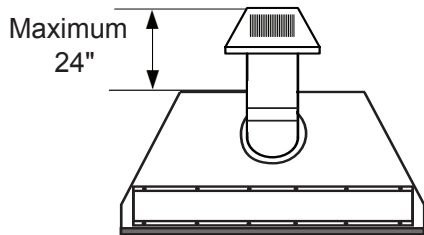
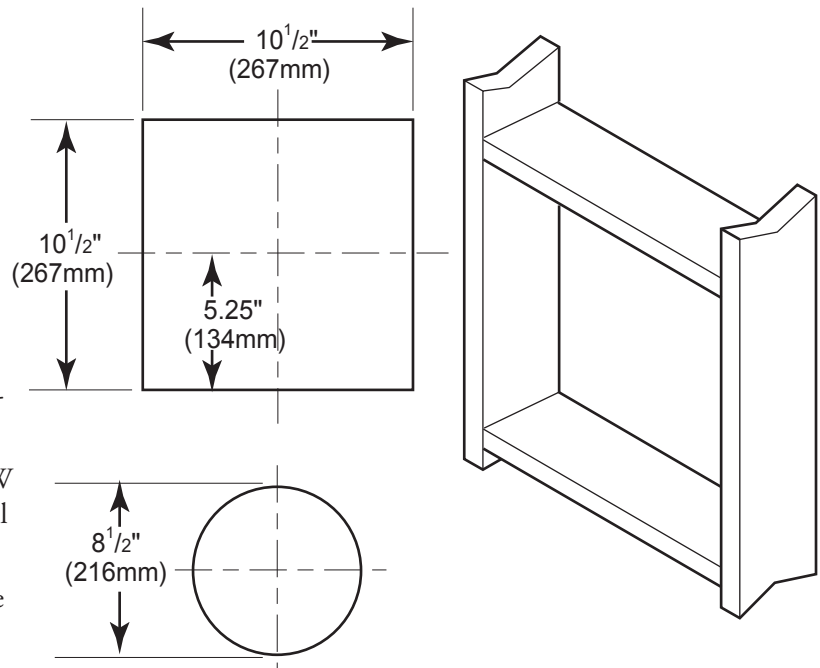

Figure 11 - Rear Vent Application, Maximum Horizontal Distance with two foot minimum rise
Figure 12 - Vent Opening Requirements
The maximum horizontal distance between the rear of the appliance and the outside of termination with 2 feet minimum rise is 24" (610 mm). See Figure 11.
1. Locate and cut the vent opening in the wall. For combustible walls first frame in opening. See Figure 11.
Combustible Walls: Cut a 10½"H x 10½" W (267mm x 267mm) hole through the exterior wall and frame as shown. See Figure 12.
3. Attach vent pipe assembly to the fireplace. Set fireplace in front of its permanent location to insure minimum clearances. Mark the wall for a 10½"H x 10½"W (241mm x 241mm) square hole (for noncombustible material such as masonry block or concrete, a 8½" [216mm] diameter hole is acceptable). See Figure 11. The center of the hole should line up with the center line of the horizontal rigid vent pipe end. Be sure to allow for minimum rise. Cut a 10-1/2"x10-1/2" (267mm X 267mm) square hole through combustible exterior wall (8½" [216mm] diameter hole if noncombustible). Frame as necessary. Allow ¼" minimum rise per foot. See Figure 12.
1. Establish vent hole through the wall. *See Figure 12, page 17.*